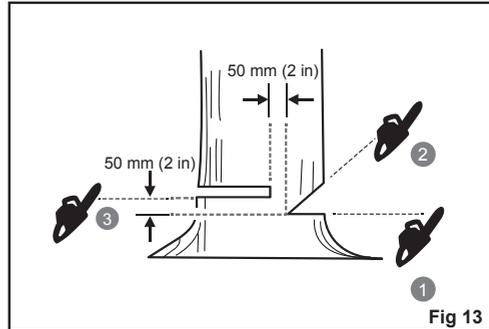

Fig 13
- **Notched Undercut.** Cut a notch about 1/3 the diameter of the tree, perpendicular to the direction of fall. Make the cuts of the notch so they intersect at a right angle to the line of fall. This notch should be cleaned out to leave a straight line. To keep the weight of the wood off the saw, always make the lower cut of the notch before the upper cut. See Fig.13.